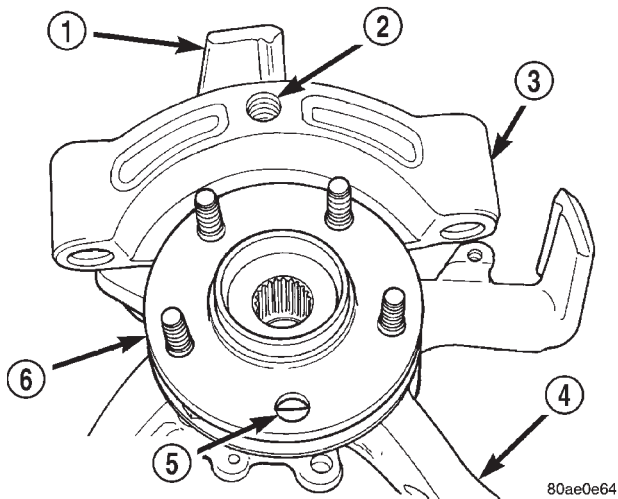

Fig. 31 Bearing Splitter Half Installed
(3) Rotate the hub so the hole in the hub that wheel mounting stud was removed from is facing away from brake caliper lower rail on steering knuckle (Fig. 31). Install one half of the Bearing Splitter, Special Tool 1130, between the hub and the bearing retainer plate (Fig. 31).
NOTE: Align the threaded hole in this first half of the bearing splitter with the caliper rail on the steering knuckle (Fig. 31).